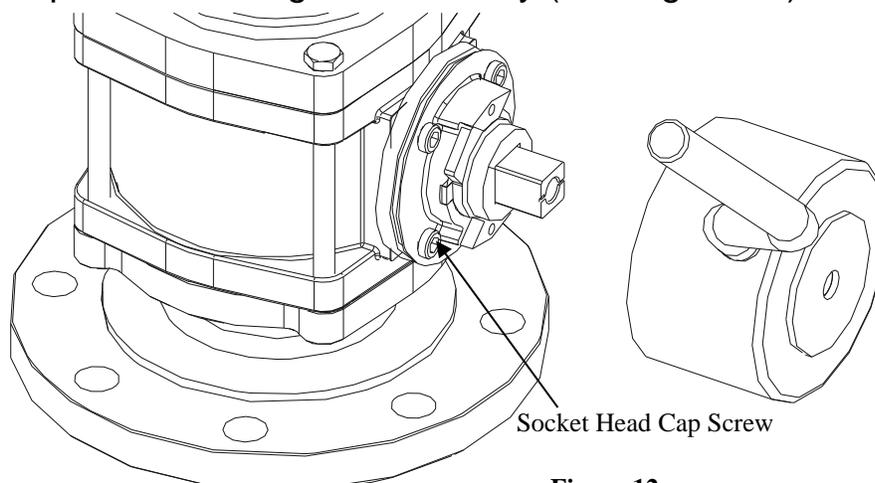

Figure 12
- Remove the 4 socket head cap screws that attach the actuator adapter to the integral valve body (see Figure 12)